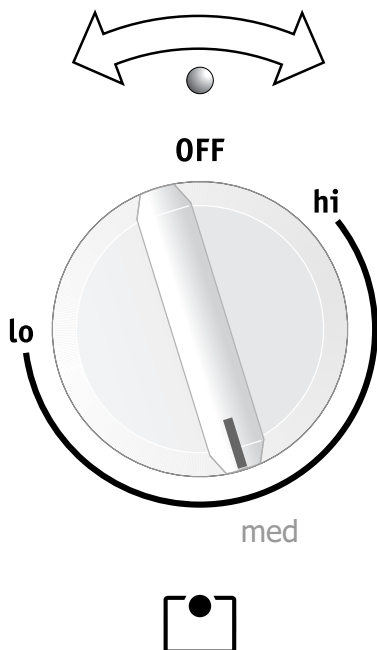

Fig. 1
1. Push in and turn the knob in either direction to the desired setting (See Fig 1). The temperatures are approximate, and are designated by **hi** and **lo**. However, the control may be set at any position between **hi** and **lo** for different levels of warming.